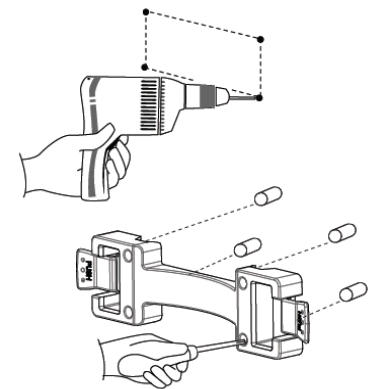

Figure 9
3. Fix the wall bracket to the wall in the marked position using the expansion plugs provided, inserting the support cylinders between the bracket and the wall (not necessary for installation in box). (Figure 9).